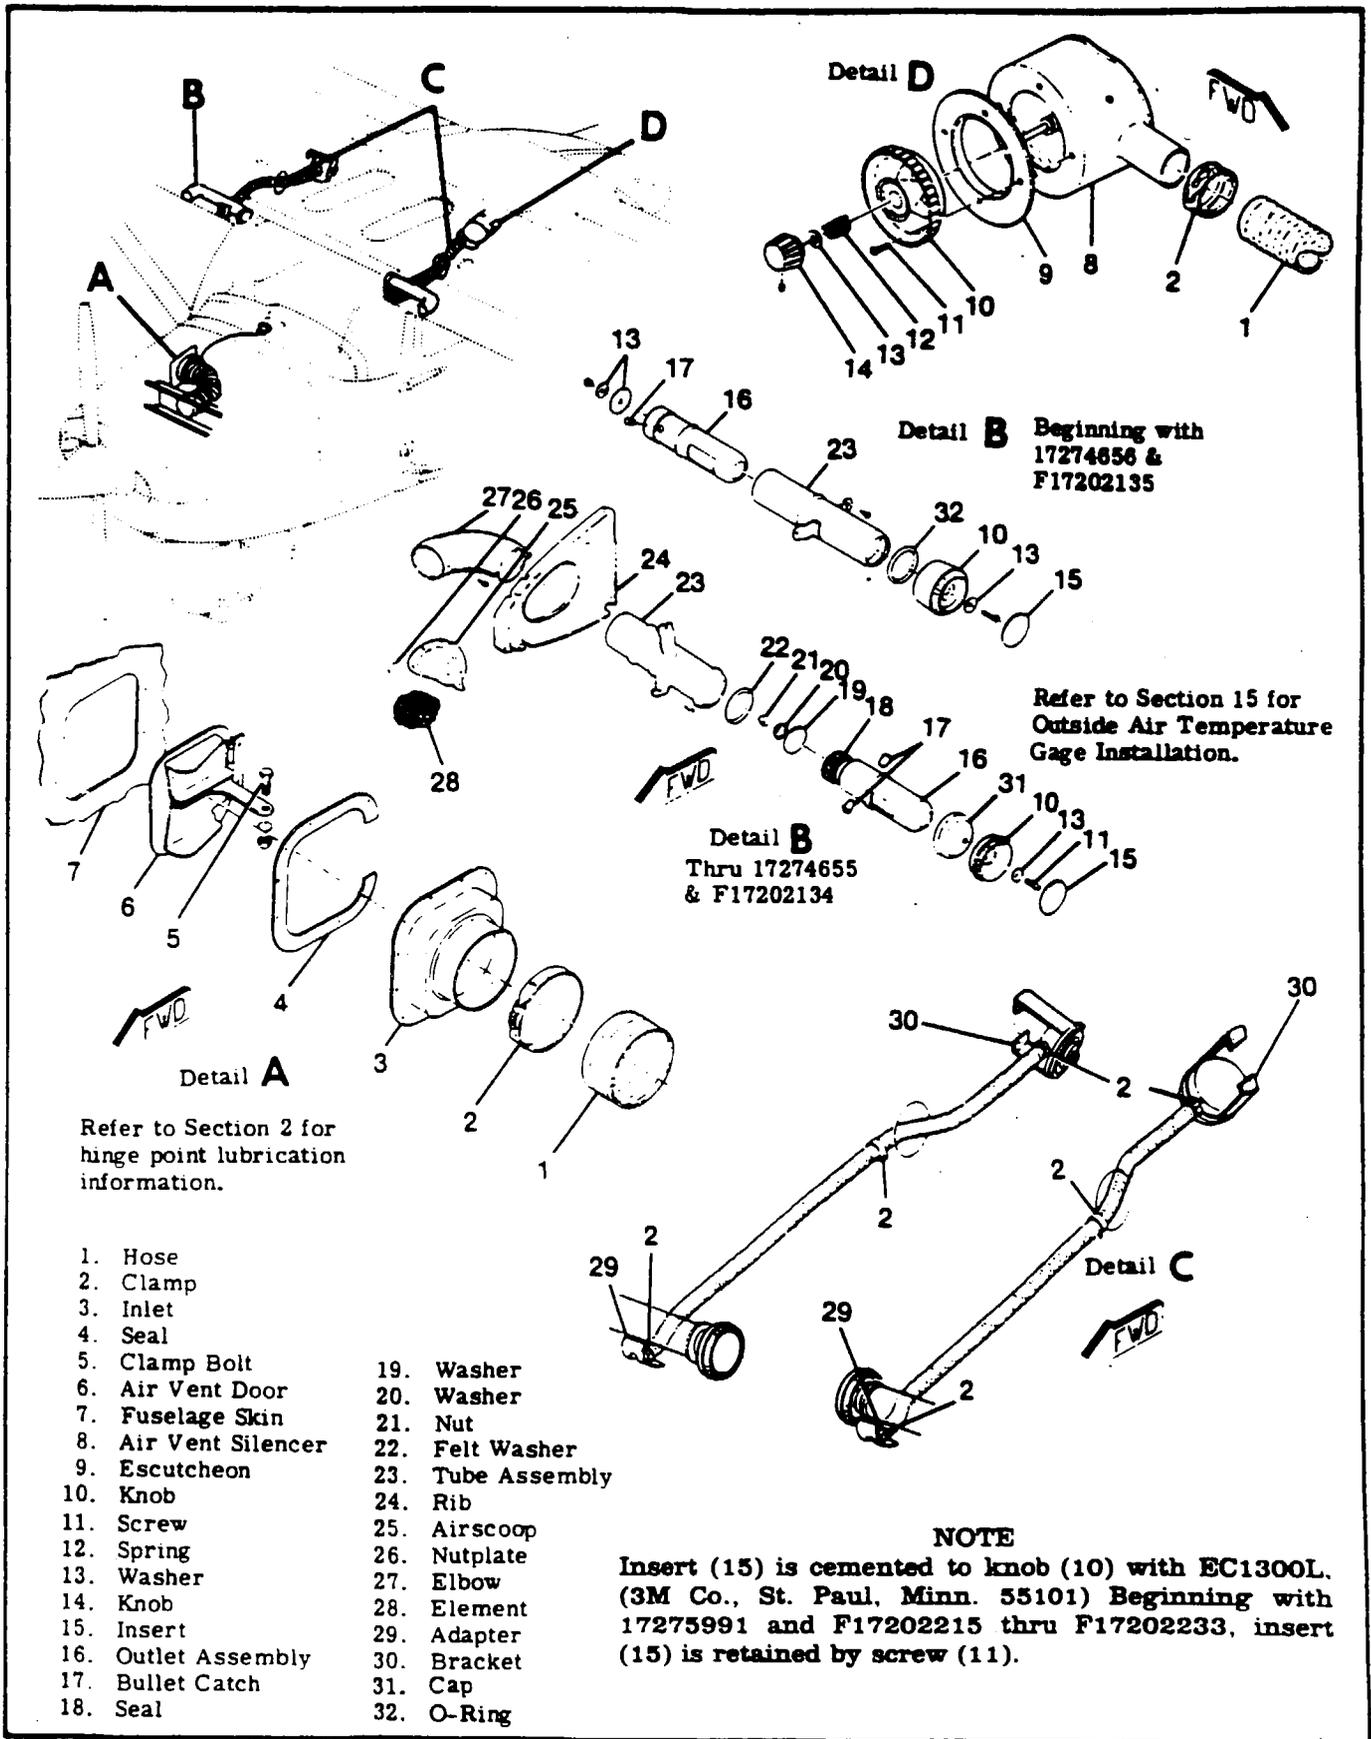

Figure 14-2. Ventilating Systems
- 14-12. VENTILATING SYSTEMS. (See figure 14-2.)
- 14-16. **REMOVAL, REPAIR AND INSTALLATION.** The ventilating system is illustrated in figure 14-2. The figure may be used as a guide for removal, repair or installation of system components. A defective ventilator or scoop must be repaired or replaced. Check for proper operation of controls after repair and/or installation.